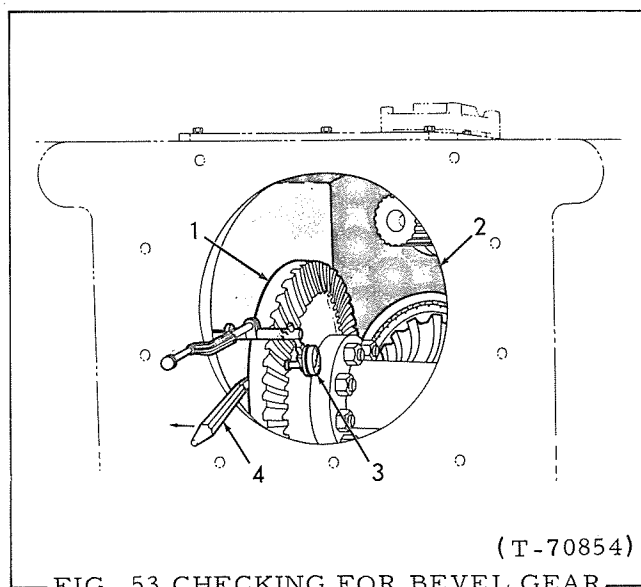

FIG. 53 CHECKING FOR BEVEL GEAR—
1. Before installing transmission, the bevel gear shaft bearings must be checked for end play. As it is impractical to check the bearing pre-load as described in BEVEL GEAR AND SHAFT (steering clutches removed), refer to Fig. 53 and check bearing end play by positioning a dial indicator through power take-off access hole (if tractor has rear mounted equipment, remove bevel gear compartment cover and work through top of bevel gear compartment). Pry bevel gear in both directions (not too hard), if ANY end play is shown on dial indicator, refer to BEVEL GEAR AND SHAFT and adjust bevel gear shaft bearings preload.